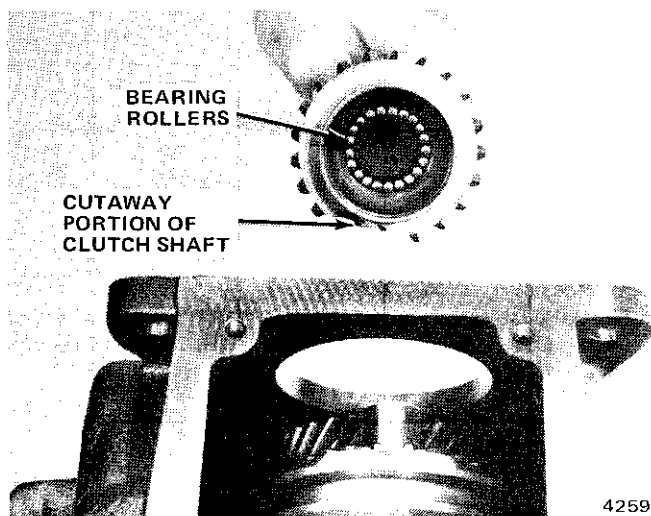

Fig. 2B-30 Clutch Shaft Installation
(16) Install second-third synchronizer assembly on main shaft and install synchronizer snap ring and blocking ring.
(17) Install reverse gear on main shaft.
(18) Install main shaft and gear assembly in case.
(19) Install main shaft pilot bearing rollers in clutch shaft bore. Use petroleum jelly to hold rollers in place.
(20) Position clutch shaft in case so cutaway portion of shaft faces downward (fig. 2B-30) and guide clutch shaft onto main shaft. Do not displace pilot bearing rollers during installation.